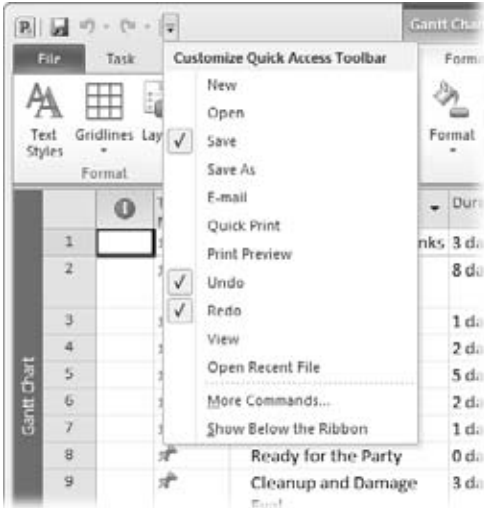

Figure 25-5:
- **Add a command to the toolbar.** Click the down arrow to the right of the Quick Access toolbar and then choose the command you want to add, as shown in Figure 25-5. A checkmark appears to the left of the commands on the toolbar. The drop-down menu includes several popular commands, like New, Open, and Print Preview.